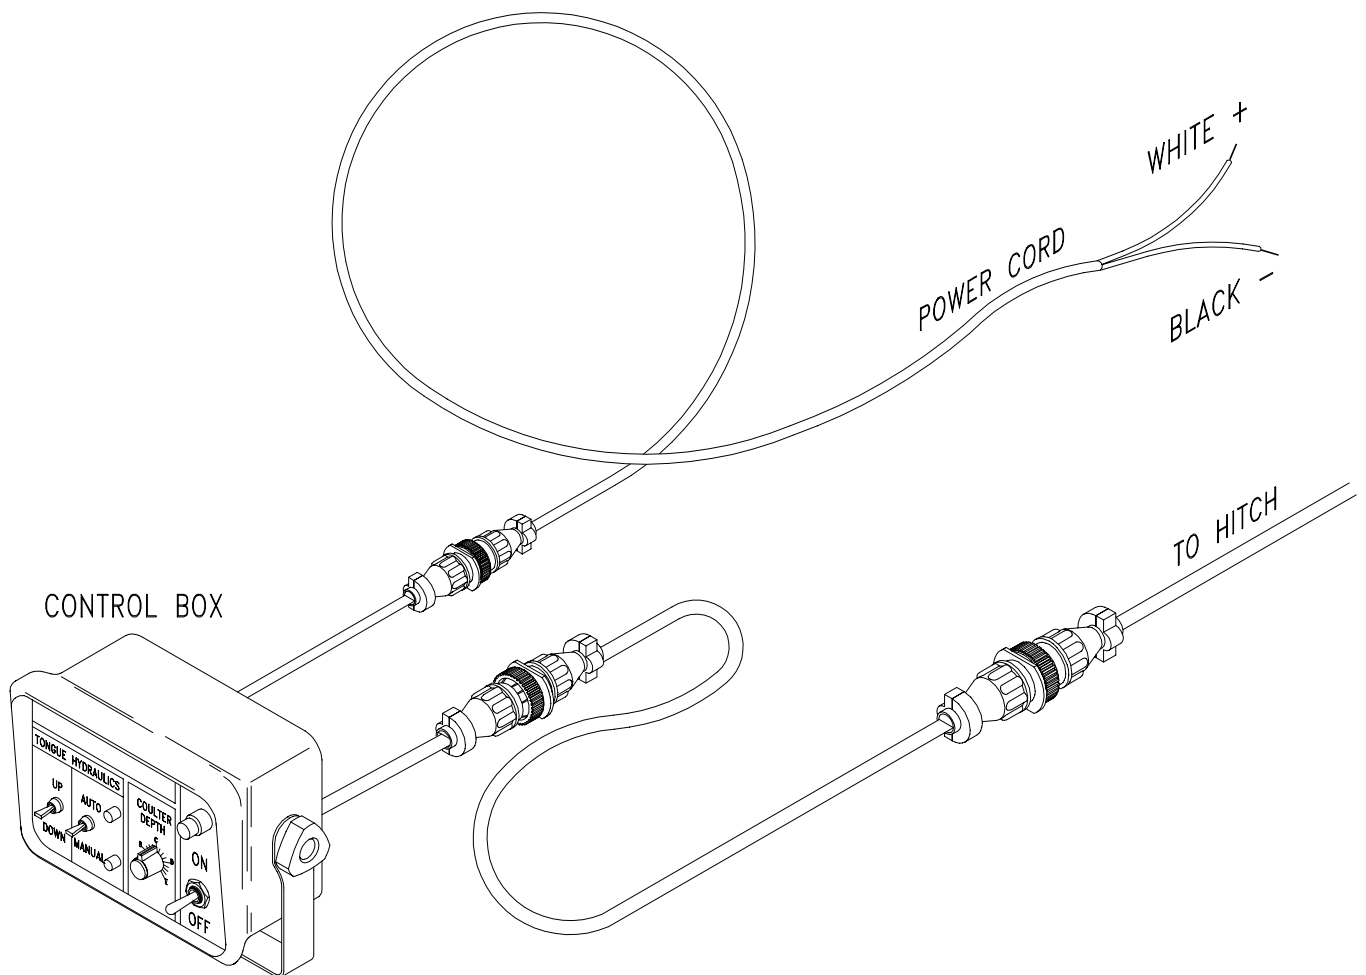

Figure 1-9
1. Mount the control box, Figure 1-9, at a convenient location in the tractor cab. Connect the 12' extension cable to the 9-pin connector on the back of the control box and route the cable back toward the tractor drawbar area making sure it will not get kinked or pinched.